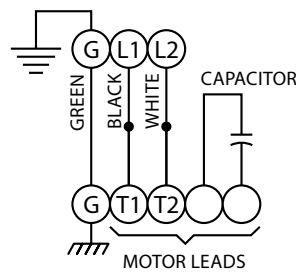

Figure 5
16. Pull wires through large opening in motor housing (4) and connect wires with cord (22) in Conduit box (33) per schematic in Figure 5.
17. Refill with cooling oil and place o-ring (35) and conduit box (33) onto motor housing (4). Place cap screws (36) and washers (37) through conduit box into motor housing and tighten to 16 ft. lbs.